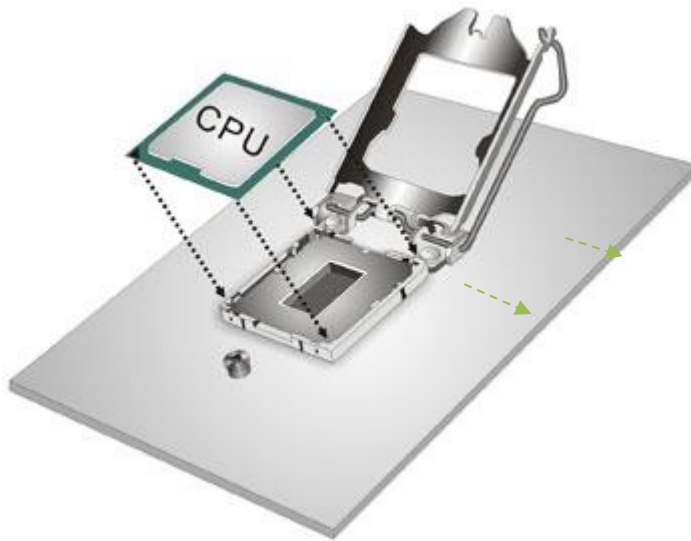

Figure 4-5: Insert the Socket LGA1200 CPU
Step 7: Insert the CPU. Gently insert the CPU into the socket. If the CPU pins are properly aligned, the CPU should slide into the CPU socket smoothly. See **Figure 4-5**.